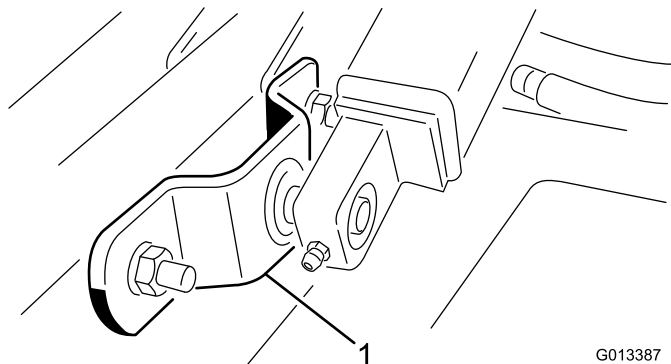

Figure 8
11. Remove the bolts, washers, and locknuts securing each lift arm mount to the cutting-unit castor-arm tubes (Figure 8).